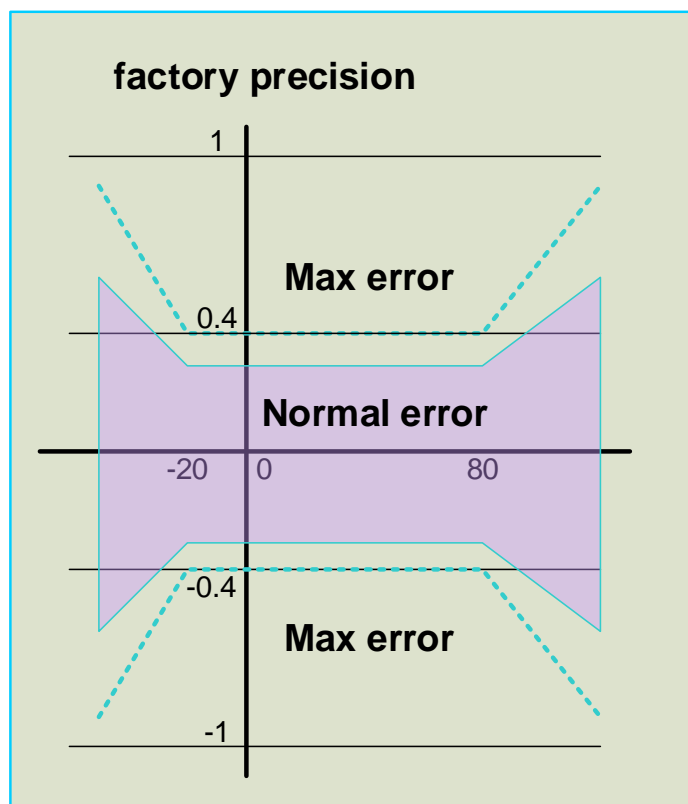

Figure 17. Typical Performance Curve
- 3) See typical performance curve in Figure 17.
- 1) A typical characteristic curve is shown in Figure 17.